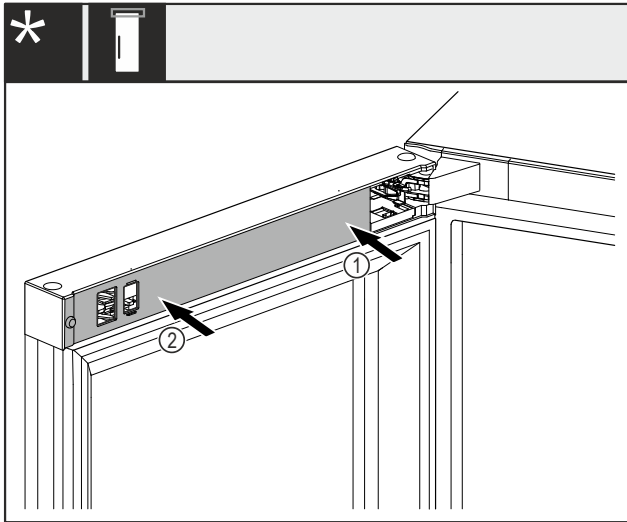

Fig. 33
- Place the cover Fig. 33 (1) on the bearing bracket side first and snap into place.
- Fit the cover Fig. 33 (2) on the outside and snap into place.